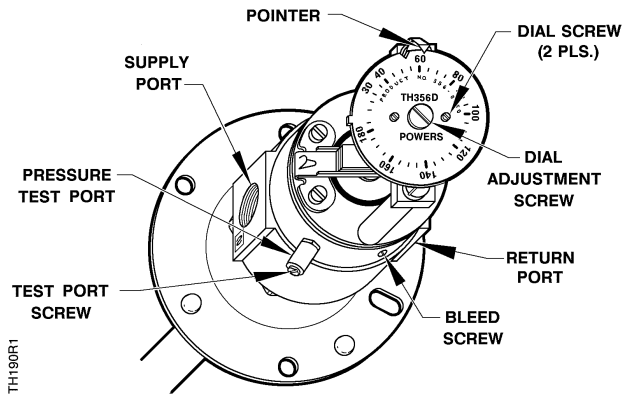

Figure 5. LIMITEM Cover Removed.
2. Turn the dial adjustment screw with a screwdriver to change to the desired setpoint. See Figure 5
1. Loosen the dial screws. (See Figure 5.)